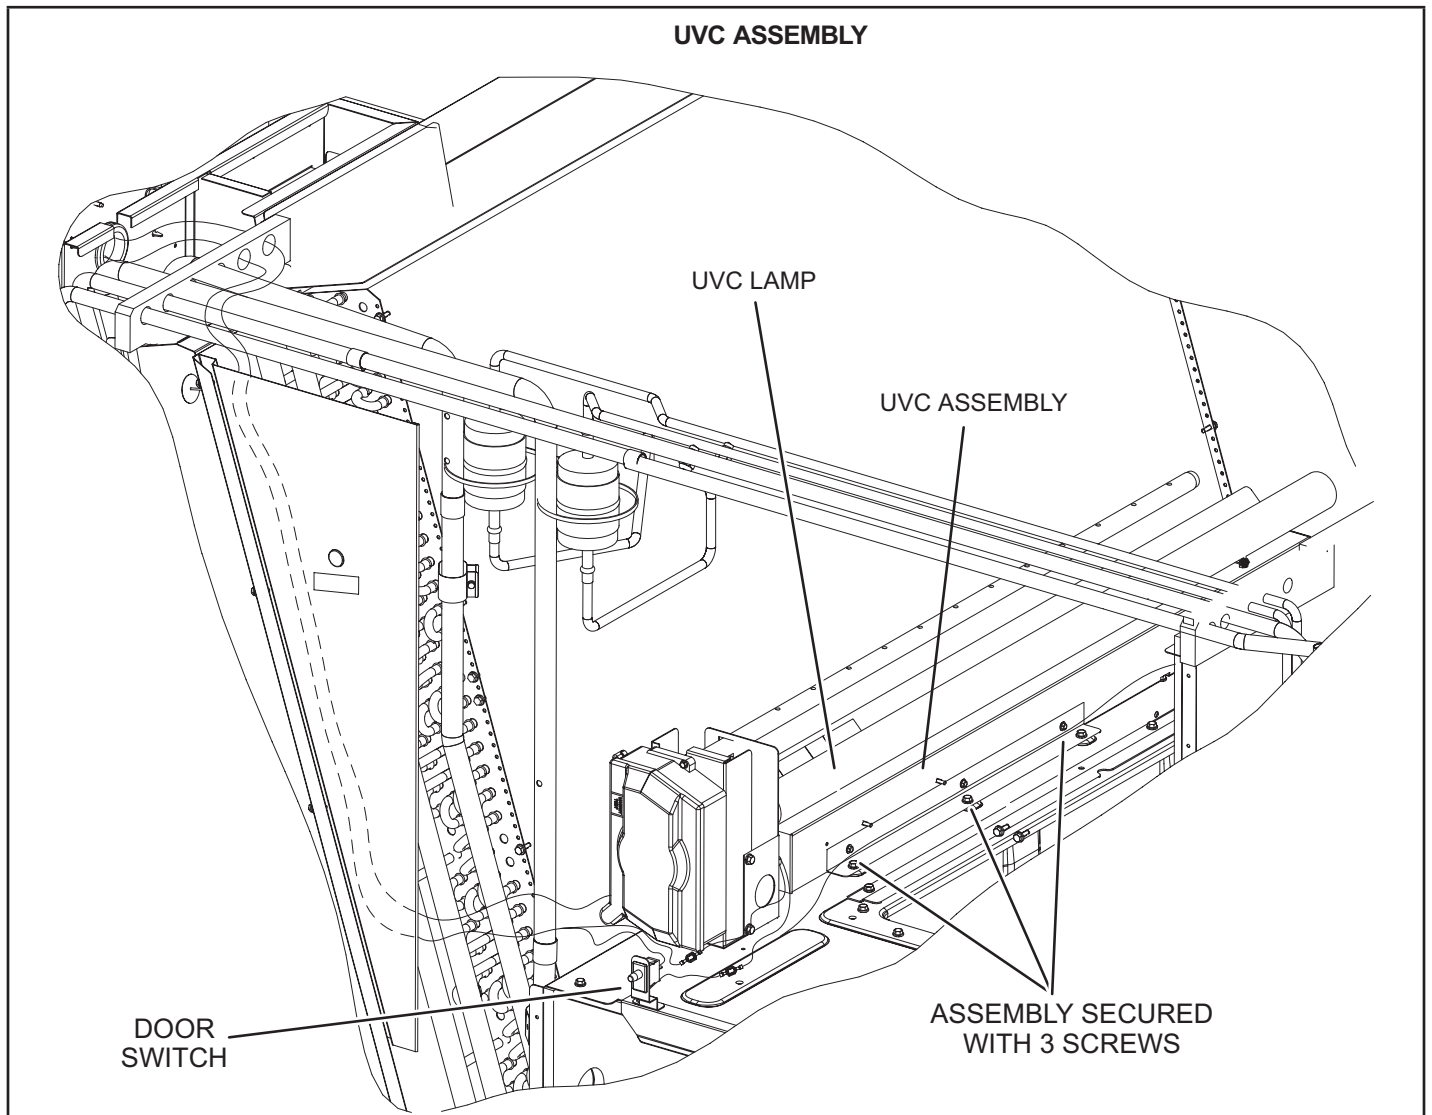

FIGURE 31
When the UVC light is factory installed, the lamp is shipped in a foam sleeve. The lamp is attached to the UVC light assembly on the blower deck. See FIGURE 31. Remove the lamp and install into the UVC light assembly as shown in steps 2 through 11.
- 5 - Remove and retain the (3) screws securing the UVC assembly. Carefully slide the complete UVC assembly out through the blower access door. See FIGURE 31.
- 8 - Carefully place the UVC assembly on the blower deck. Line up the mounting holes on the UVC assembly with the mounting holes on the blower deck. See FIGURE 31. Use the retained screws provided to attach the UVC assembly in place.